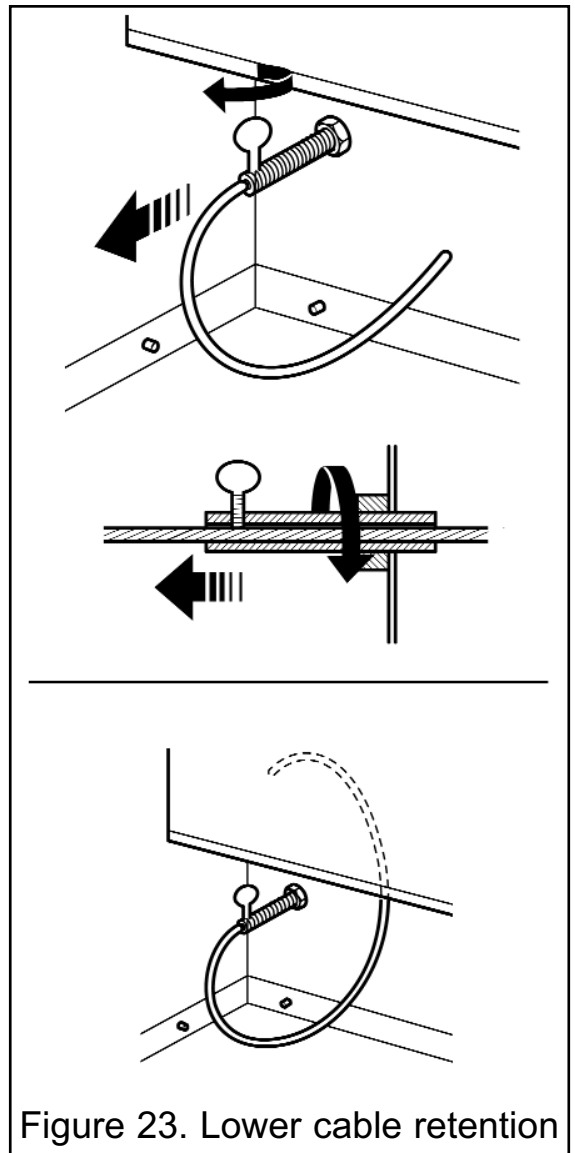

Figure 23. Lower cable retention
11. Pull each cable taut. Push the cable retainers hard up against the back panel. The end of the cable adjuster will pass into the hole. Tighten the screws in the retainers so that they clamp the cables in position. Apply tension to the cables by turning the hexagonal adjusters by hand (See figure 23).
14. Feed the free length of the cables into the gap between the inner and outer back panels so that they are available to allow easy removal and refitting of the appliance during subsequent service calls. **Do not cut off the free lengths of cable** (See figure 23).